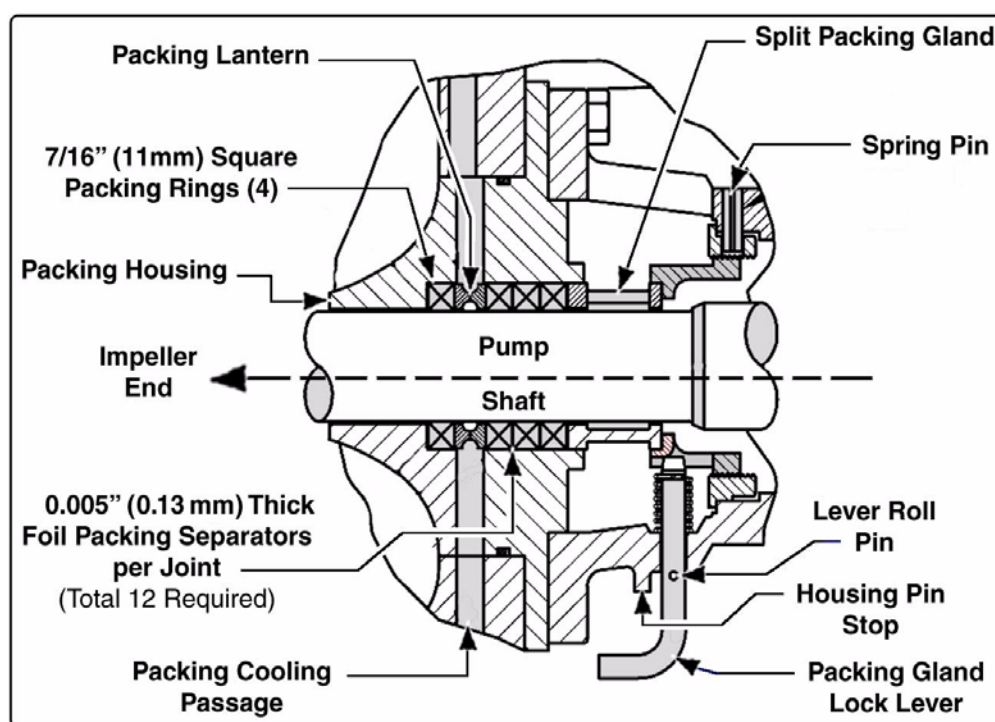
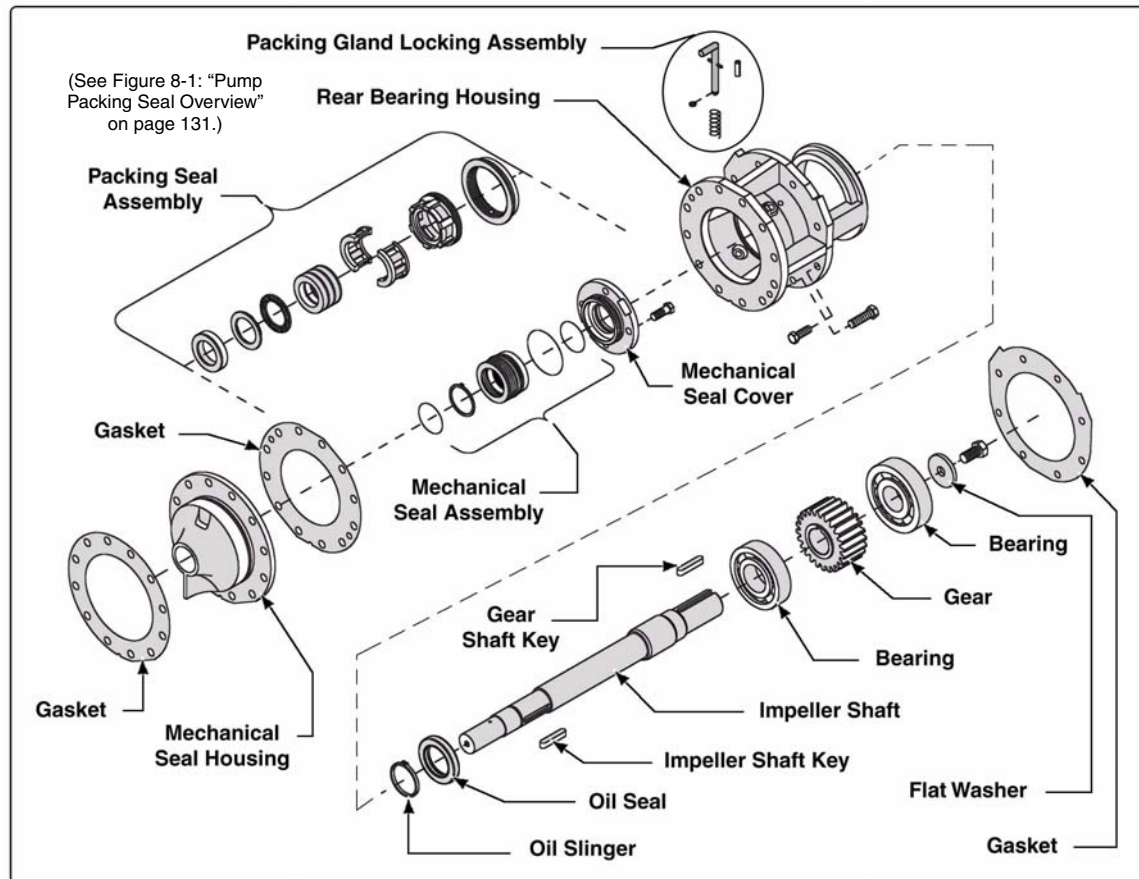

Figure 8-1: Pump Packing Seal Overview
Figure 8-2: Packing / Mechanical Seal Assembly Overview
When the packing adjustment has reached its limit, a single ring of packing can be added. However, it is usually more efficient to repack the pump. (See Figure 8-1: "Pump Packing Seal Overview.") Also see Figure 8-2: "Packing / Mechanical Seal Assembly Overview" on page 132.
The three rings adjacent to the packing gland can be replaced without disassembling the pump. The ring in front of the lantern does not need to be replaced. (See Figure 8-1: "Pump Packing Seal Overview.")
1. Loosen the slotted packing nut. (See Figure 8-1: "Pump Packing Seal Overview" on page 131.)